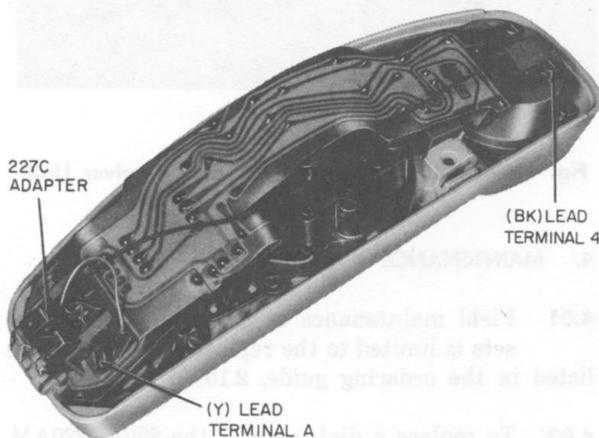

Fig. 8—D-180824 Kit of Parts Installed in 220AL Hand Telephone Set
- (1) Remove shell from handset, 3.01 and 3.02
- (2) Remove the existing 227D adapter from the handset cord jack by grasping adapter on both sides and pulling outwards.
- (3) Install the 227C adapter from the kit of parts into the handset cord jack (Fig. 8).
- (4) Connect the (Y) and (BK) spade-tipped leads to terminals A and 4, respectively, of the network (Fig. 8).
- (5) The 840362776 terminal board, furnished in the kit, mounts in the associated telephone base, refer to Section 502-303-101 or 502-322-400 for installation and connection information.
- (6) Using reverse procedure install shell back on the handset.